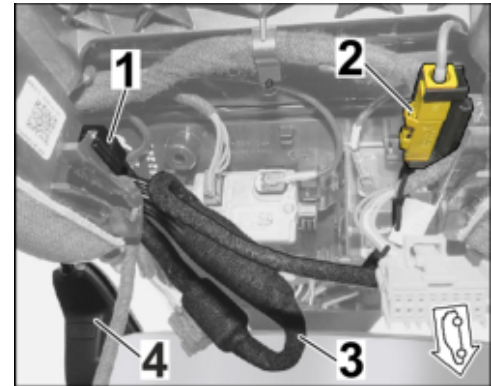

Figure 13
2.3.6 Connect rear camera pre-fitting plug and re-fit it in the holder. ⇒ Figure 13 -2-